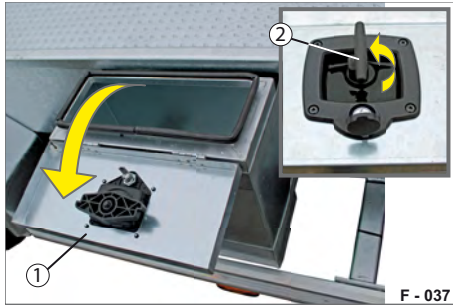

Fig. 63 Toolbox open
- ▶ Pull off the lock (Fig. 63/2) and rotate it by 90°.
- ▶ Carefully fold the lid (Fig. 63/1) up.